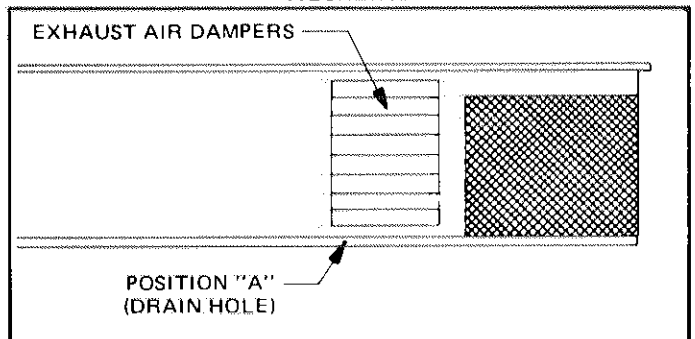

FIGURE 106
- 2 - Adjust fresh air/return air dampers to the 100% return air position and measure static pressure at position "A" on unit. See Figure 106. This static pressure must be 0" w.c. to + 0.10" w.c. (0 mm w.c. to 2.54 mm w.c.).